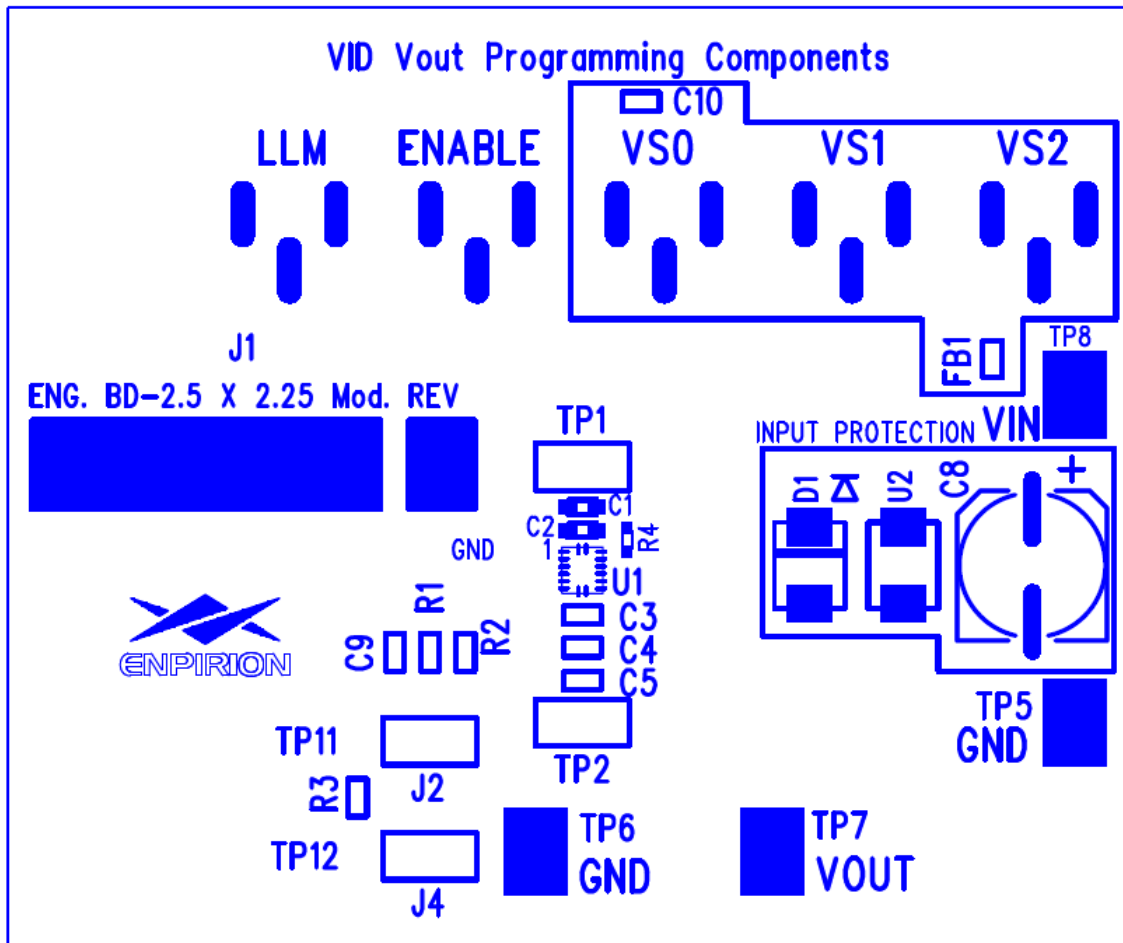

Figure 1. Evaluation Board Layout.
This application note describes how to test the EP5357xUI (EP5357LUI, EP5357HUI) converters using the Altera Enpirion 2.5mmx2.25mm Module EVAL BOARD shown in Fig. 1. In addition to this document you will also need the device datasheet for a thorough evaluation of the power converter module.
**STEP 2:** Connect a power supply to the input test points, TP8 (VIN) and TP5 (GND) as indicated in Figure 1. The same test points can also be used to measure the input voltage.
**STEP 4:** Connect the load to the output connectors TP7 (VOUT) and TP6 (GND), as indicated in Figure 1. The same test points are also used to measure the DC output voltage.